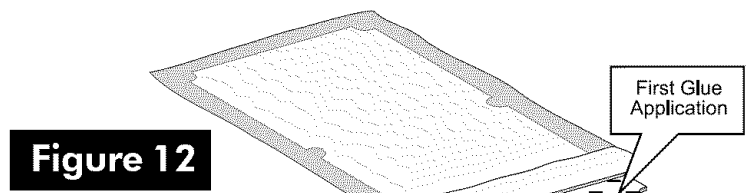

Figure 12
24. Fold cloth away from end to expose slate/slatron for your first glue application. Apply contact cement to top surface in a band 4 inches wide on this end. (See figure 12) Coat edge also. Spray cement smoothly and evenly. Allow cement to become tacky, wait at least one minute.